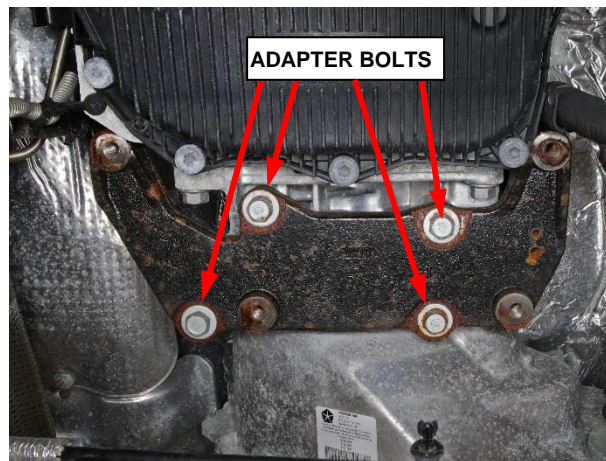

Figure 6 – Rear Engine Mount Bracket
70. Connect the PM sensor wire harness connector (1) (Figure 6).
- 16. Remove the four bolts and the rear engine mount bracket (Figure 6).